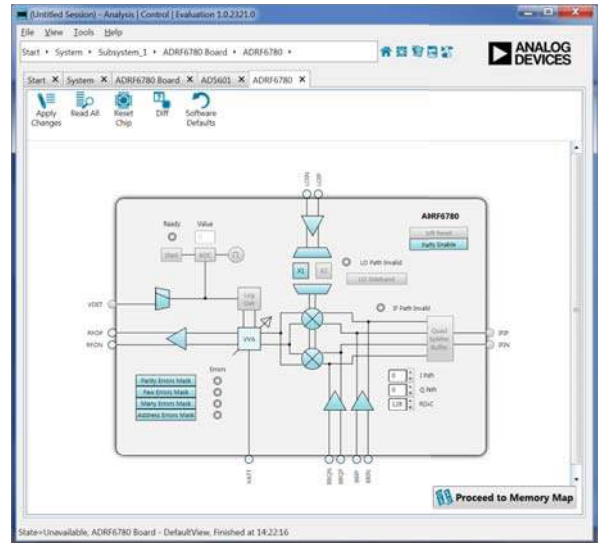

Figure 10. ADRF6780 Block Diagram in the ACE Software
- The **ADRF6780** block diagram now appears (see Figure 10).